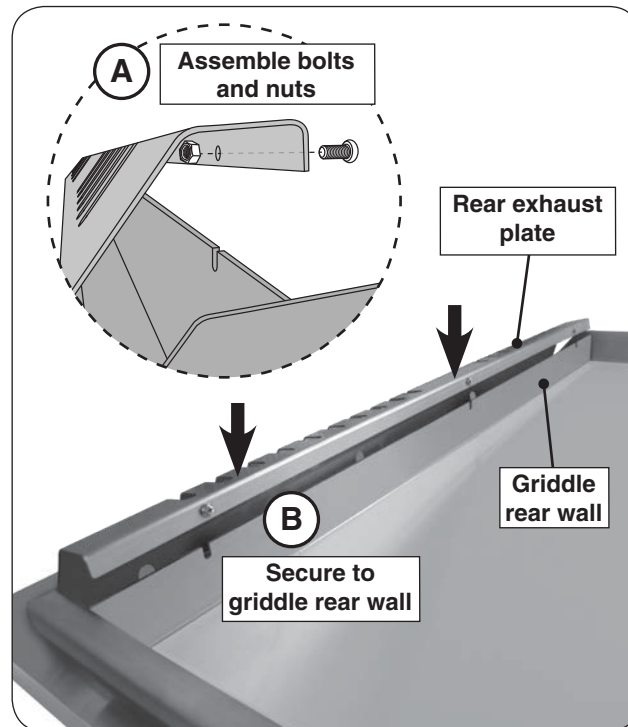

Fig. 22-3 Install rear exhaust plate
1. Assemble the provided bolts and nuts (loosely) to the three holes on the rear exhaust plate as shown in Fig. 22-3, A.
2. Align the exhaust plate with the three cutouts on the griddle rear wall and fasten (see Fig. 22-3, B).